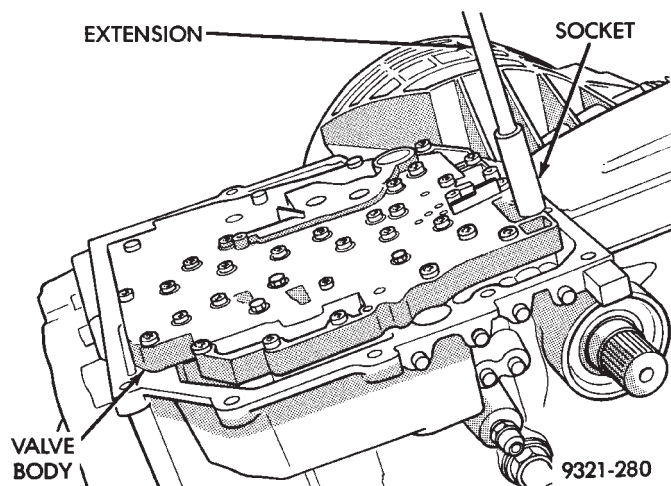

Fig. 46 Remove Valve Body Bolts
- (7) Remove valve body bolts (Fig. 46).